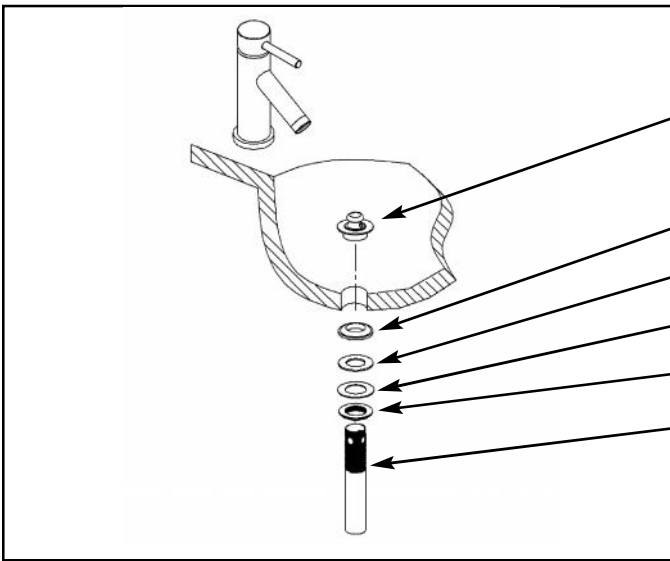

Figure 3
- 3. Installing drain assembly - Remove top flange/stopper assembly from tail piece. Insert tailpiece up through sink drain hole. See Fig. 3**